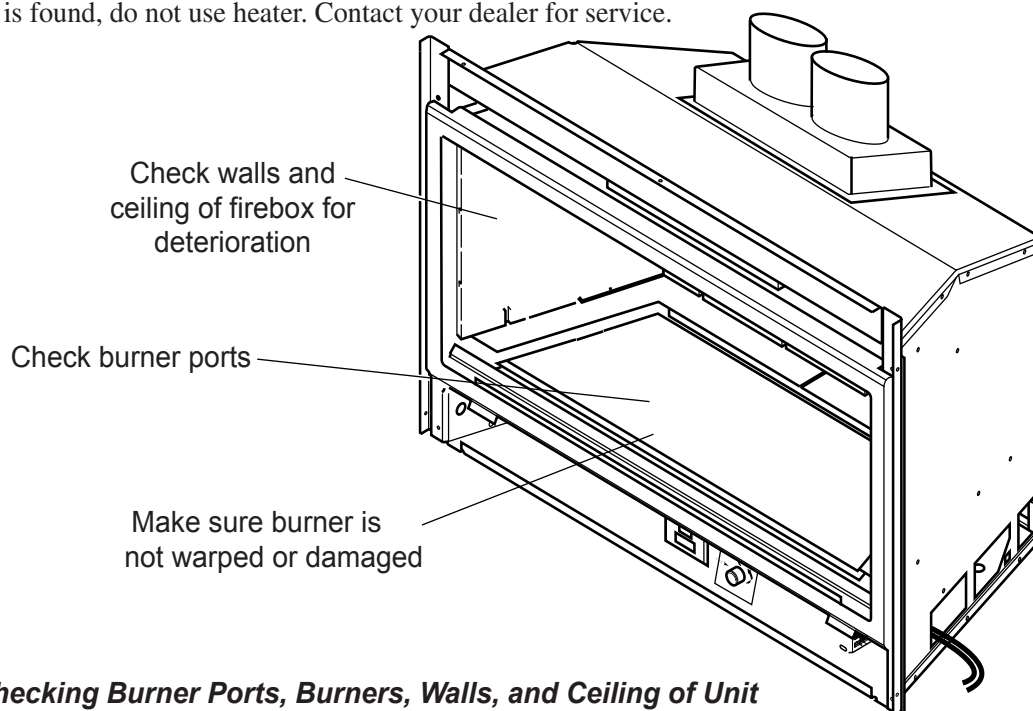

Figure 28 - Checking Burner Ports, Burners, Walls, and Ceiling of Unit
4. Clean burner and burner ports. Inspect the following. *See Figure 28:*